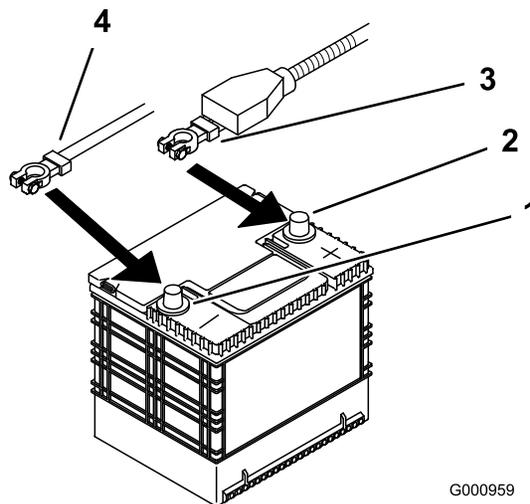

Figure 53
4. First disconnect the negative battery cable from the negative (-) battery terminal (Figure 53).
5. Slide the red terminal boot off the positive (red) battery terminal. Then remove the positive (red) battery cable (Figure 53).
4. Secure the cables with 2 bolts (1/4 x 3/4 inch), 2 washers (1/4 inch), and 2 locknuts (1/4 inch) (Figure 53).